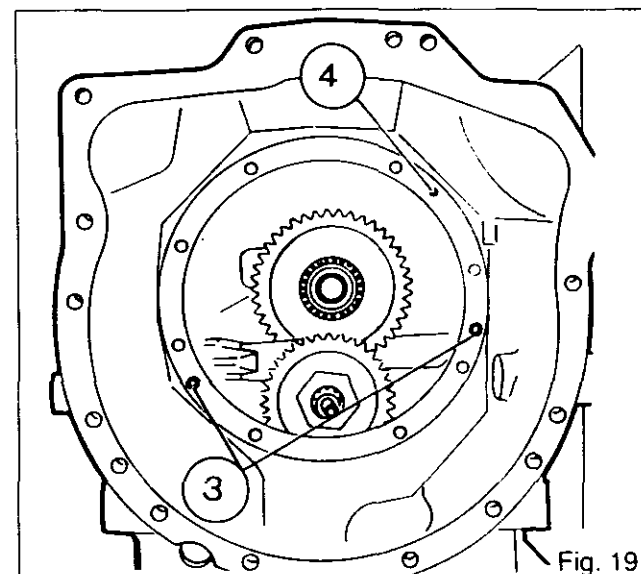

Fig. 19
73. Fit locating pin (4) and new O-rings (3) to the housing (Fig. 19).